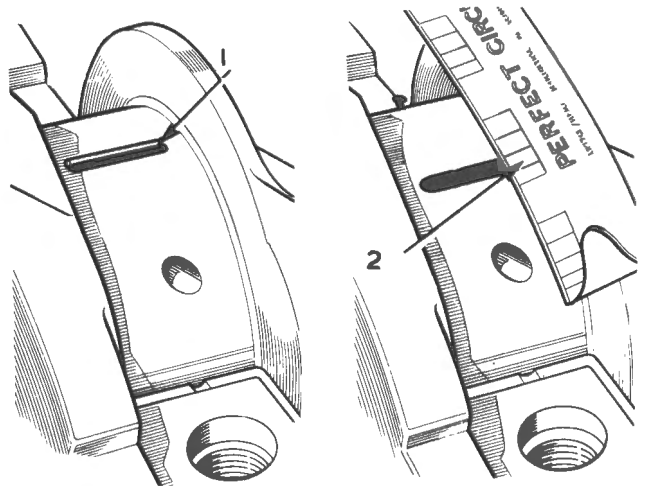

Fig. D-93
- 17 Place a piece of 'Plastigauge' across the journals as shown in Fig. D-93.